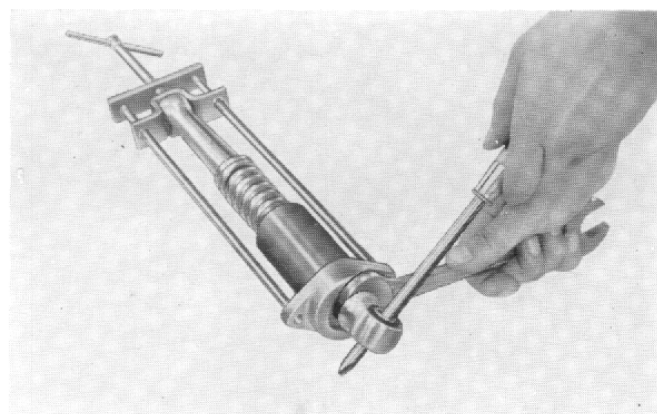

Fig. 72
- (1) Remove the rear cushion assembly by loosening the upper and lower cap nuts.
- (2) Disassemble the rear cushion component parts with the special tool as shown in Fig. 72. (Tool No. 07035-09800)